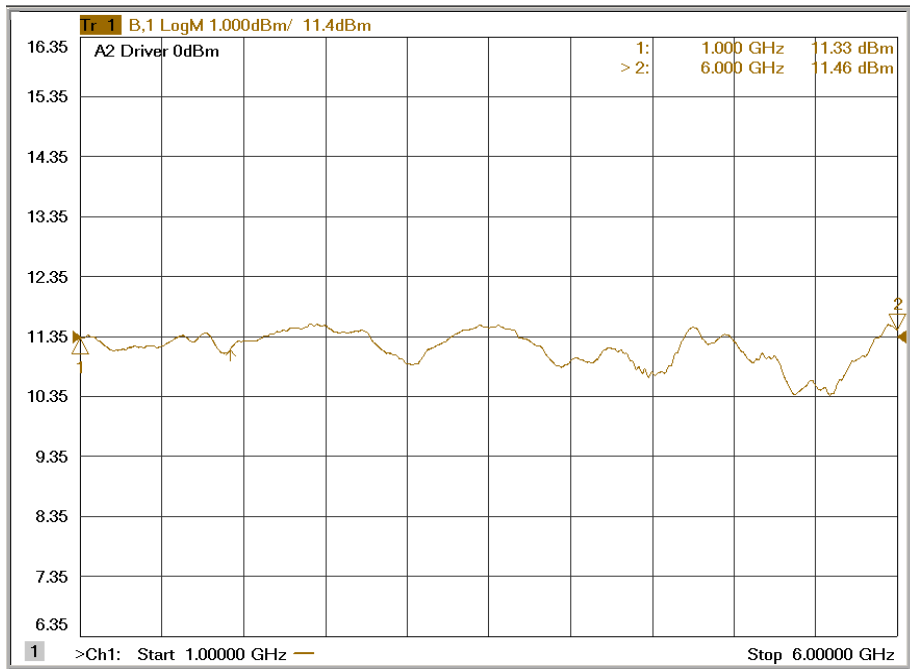

Figure 4-4. Typical A2 Quad Amp Driver Response
3. The Typical response for the A2 Quad Amp Driver is shown in Figure 4-4.